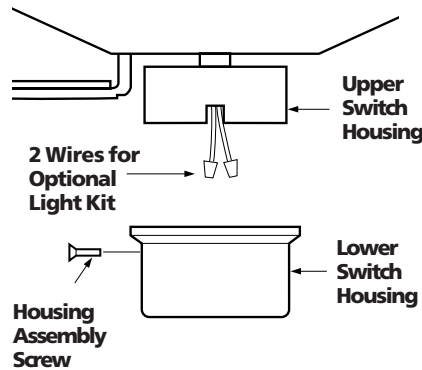

Figure 8c - Lower Switch Housing Installation
2. Align the side screw holes in the upper and lower switch housings. Attach the lower switch housing to the upper switch housing with three #6-32 x 3/8" housing assembly screws. See Figure 8c.